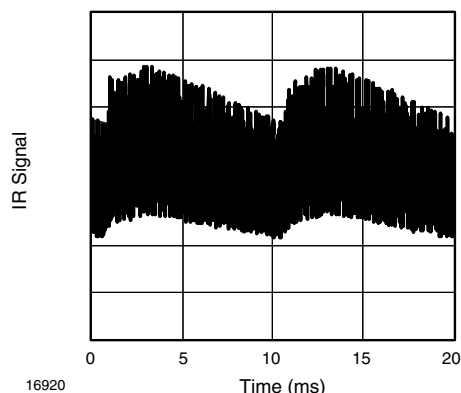

Fig. 13 - IR Disturbance from Fluorescent Lamp with Low Modulation
- Strongly or weakly modulated patterns from fluorescent lamps with electronic ballasts (see figure 13 or figure 14)